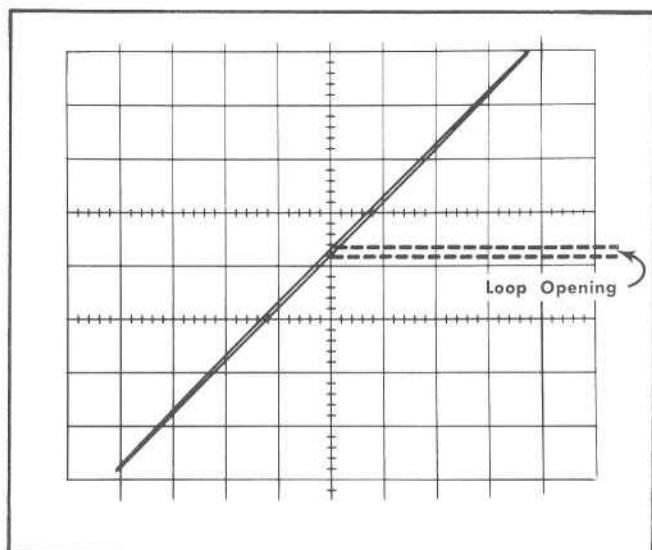

Fig. 5-7. CRT display for checking X-Y phasing (step 24).
- Check for a loop opening of ≤ 1.5 mm (see Fig. 5-7).